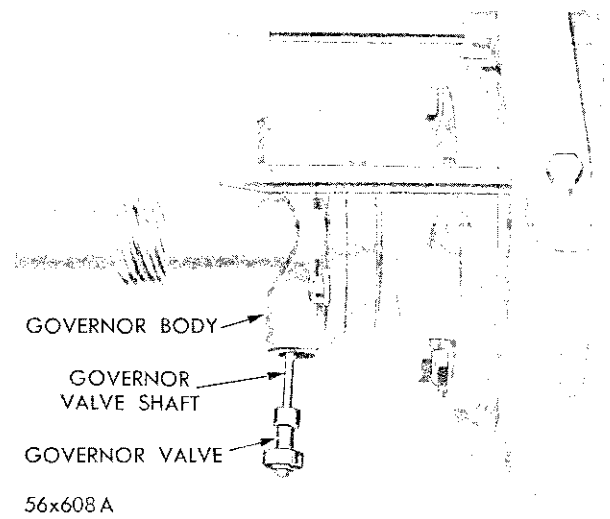

Fig. 37—Removal and Installation of Governor Valve and Shaft
(2) Remove governor valve shaft and valve (Fig. 37).